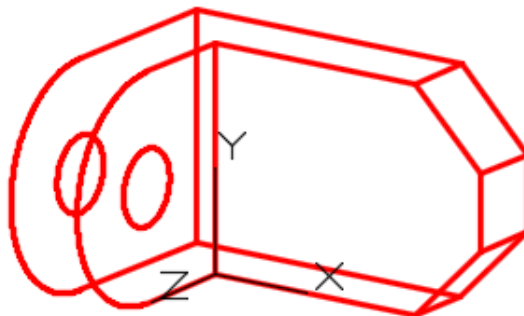

Figure Step 16
Step 16 Trim or delete the necessary lines and freeze layer: Construction to complete the wireframe model. (Figure Step 16)